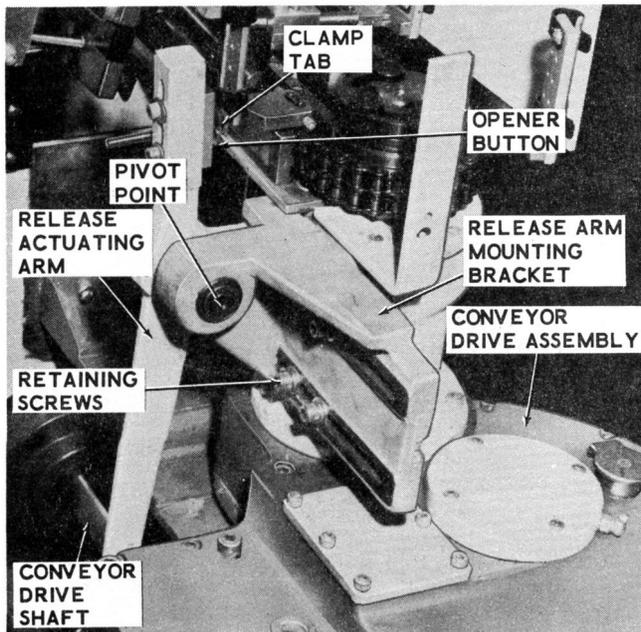

Figure 3-63. Pouch Release Mechanism
When the filled pouch has been top sealed, it moves down to the end of the machine ready to be removed. Removal of the finished pouches entails releasing of the pouch from the clamp, timed with a vacuum pick-off assembly for holding the pouch after it is released from the clamp, and placing the pouch on a conveyor or into a box, or other container as supplied by the customer. The pouch release mechanism (Figure 3-63) is similar to pouch clamp opener mechanism at the beginning of the conveyor chain.
a. The entire mechanism can be moved to the right or left horizontally by loosening four retaining screws (Figure 3-63) securing the bracket to the conveyor drive assembly. Move the mechanism to the right or left by sliding the bracket on the attaching screws in the two elongated slots. After the mechanism is lined up horizontally with the pouch clamp, tighten the four screws securely.